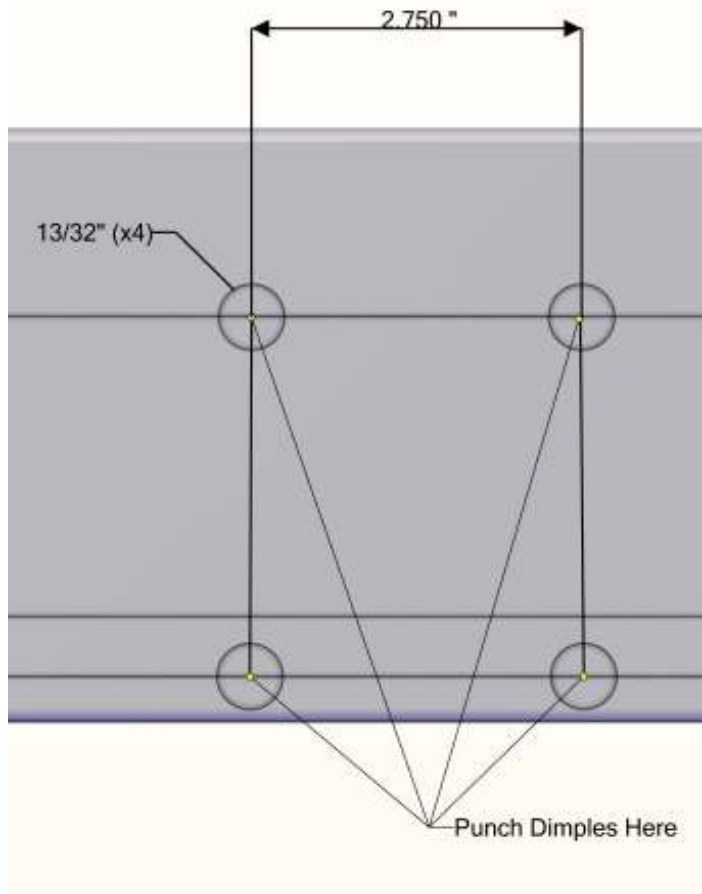

FIG. 3
Mark a second line 2 3/4" from the first. Use a hammer and punch to make a dimple for the drill bit at the intersections of the top and bottom serrations and the vertical lines See Fig 3. This helps to prevent the drill from wandering while drilling. Drill (4) 13/32" holes. Keep the drill bit perpendicular to the dock frame while drilling.